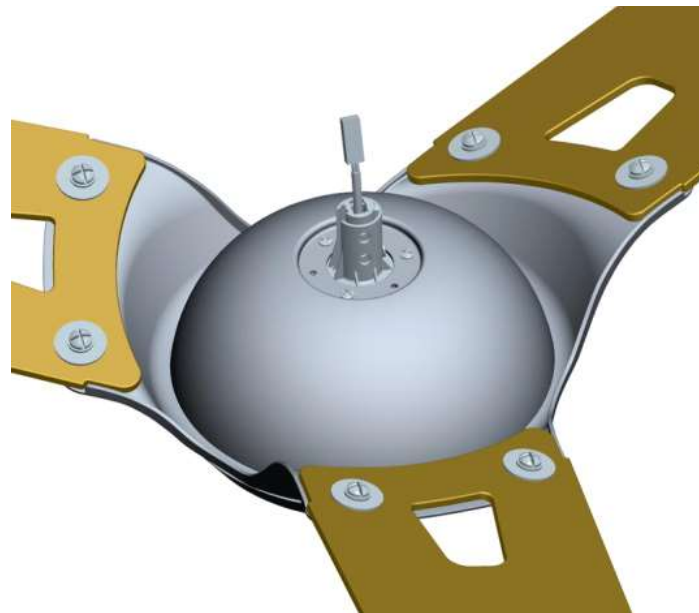

Fig 1.2
1.2 Three airfoils installed. **(Fig.1.2)**